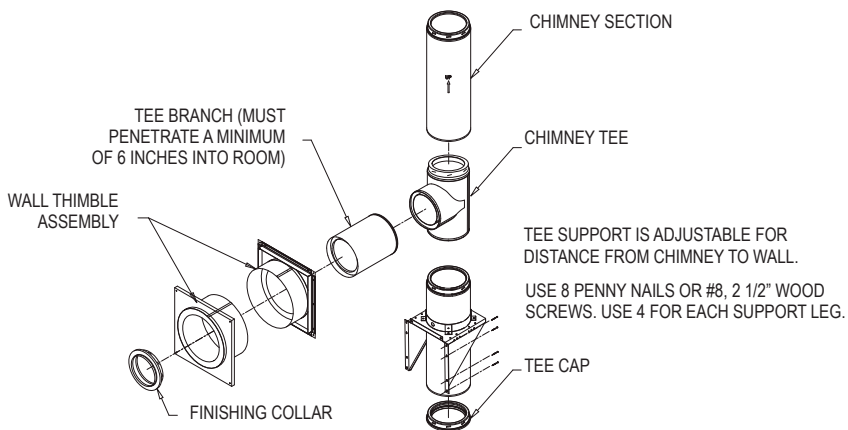
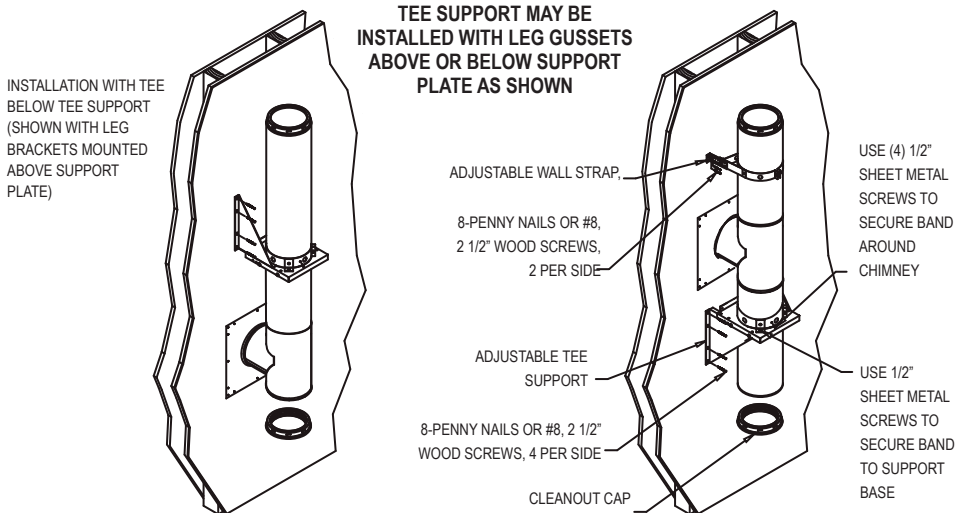

Figure 24
Figure 25
Tee-Supported installations are used when passing through a wall to a chimney. The Tee Support can hold a maximum of 60' of DuraTech Chimney (**Table 2**). The various support components are adjustable in length from the wall to better fit your installation. There are two options when installing a Tee-Supported installation: the Tee Support above the Tee, or the Tee Support below the Tee. The required parts and general configuration are as shown in **Fig.24, 25, 26 and 27**.
Thimble. Center the back portion of the Wall Thimble (with shield inside wall) in the framed opening of the outside wall (**Fig.24**). Be sure to seal the flange of the Wall Thimble around the wall by using a non-hardening waterproof sealant. Attach the back portion of the Wall Thimble to the outside wall using at least (4) 8-penny nails or (4) #8, 1-1/2" wood screws. There must be a continuous shield within the wall. If the two halves of the Wall Thimble do not overlap, a field-fabricated extension constructed out of 26-gauge galvanized or stainless steel is needed. Non-combustible insulation that adheres to the specifications outlined on page 4 may be inserted into the Wall Thimble. Do this by wrapping an insulation blanket around the pipe between the thimble sleeves. Ensure the butting edges of insulation are pointing downward. Smaller pieces of insulation may be used to fill in the corners of the thimble pass-through. Do not compress the insulation more than 25% or you may adversely affect the thermal resistance of the insulation.
4. **Install Tee Support:** Install the Tee Support on the outside wall. Position Tee Support so that the chimney Tee will be centered inside the Wall Thimble (**Fig.24, 25, 26 & 27**). The Tee Support may be installed either above the Tee or below the Tee (within one pipe section), as seen in **Fig.25**. See **Table 2** for weight bearing values of components. Important: Verify that Tee Support is level, and secure the Support to the wall using (4) #8, 2-1/2" screws for each side. Slide support base over leg brackets to adjust for desired clearance to wall, and secure by tightening bolts (**Fig.24 & 25**).
to insure that Tee is centered through Wall Thimble (**Fig.25**). Use the 1/2" sheet metal screws provided to insure a tight connection between support band and chimney section. Connect support band to support base using the 1/2" sheet metal screws provided (**Fig.25**). Twist lock Tee Cap into bottom of Chimney
used to penetrate through the wall must extend at least 6" into the room (**Fig.24 & 27**). Use high-temperature sealant (500°F) to seal between the Wall Thimble and the Chimney on the outer wall.